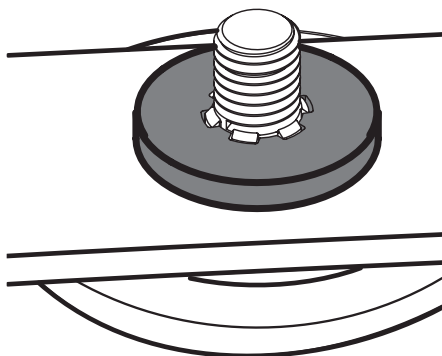

Figure 4-27
2. Carefully place the flat washer on the spindle shaft. Be sure that the splines at the base of the spindle shaft threads line up with the washer splines. See Figure 4-27.